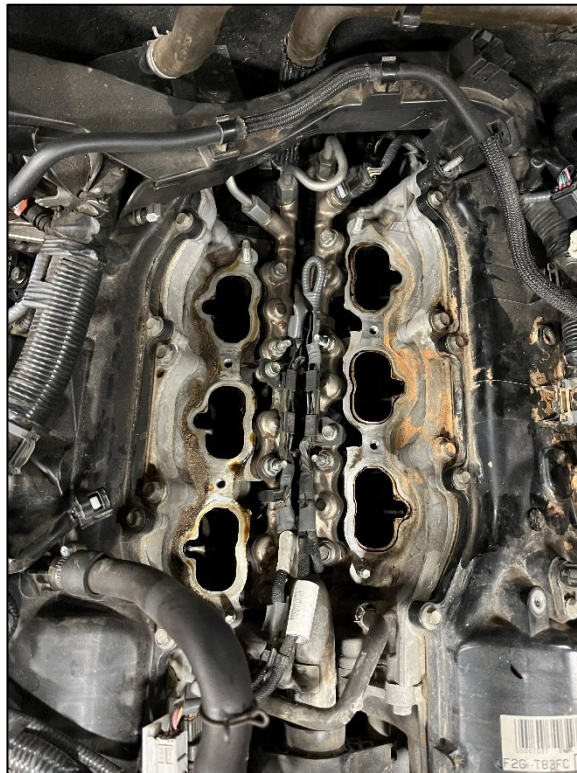

Figure 9
16. Remove the Lower Plenum from the vehicle and set aside. It is highly recommended to cover the Intake Runners with Tape or rags to prevent parts and debris from falling into the Engine. *Figure 9.*